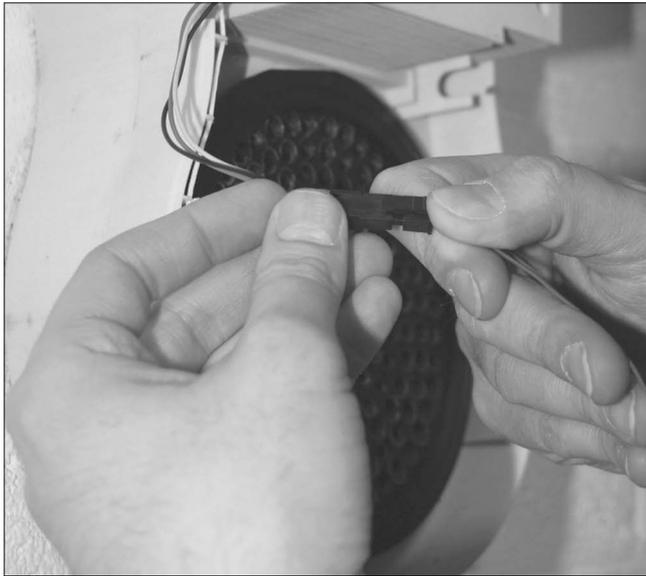

Fig.13A
- 13 Take the front cover and connect the fan leads together (Fig.13A).